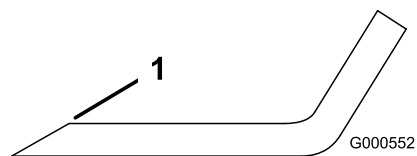

Figure 58
1. Use a file to sharpen the cutting edge at both ends of the blade (Figure 58).
Note: If the blade is not balanced, file some metal off the end of the sail area only (Figure 58).